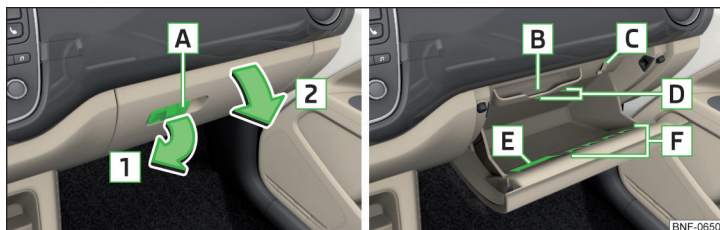

Fig. 68 Open storage compartment / interior of the storage compartment
Storage compartment » Fig. 68
- » If there is a folding hook » Fig. 69 on page 59 on the handle **A** » Fig. 68, remove any items hanging from it.